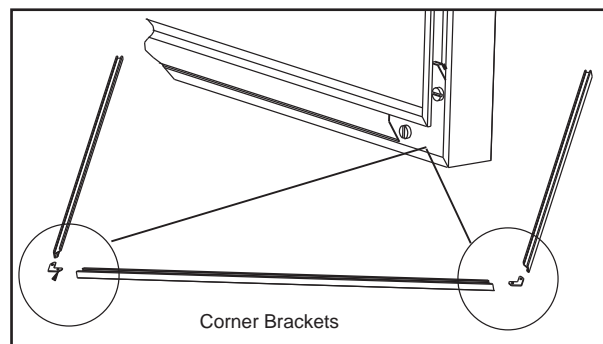

Figure 40.5
4. Using a standard flat screw driver tighten the corner brackets. **Figure 40.5.**